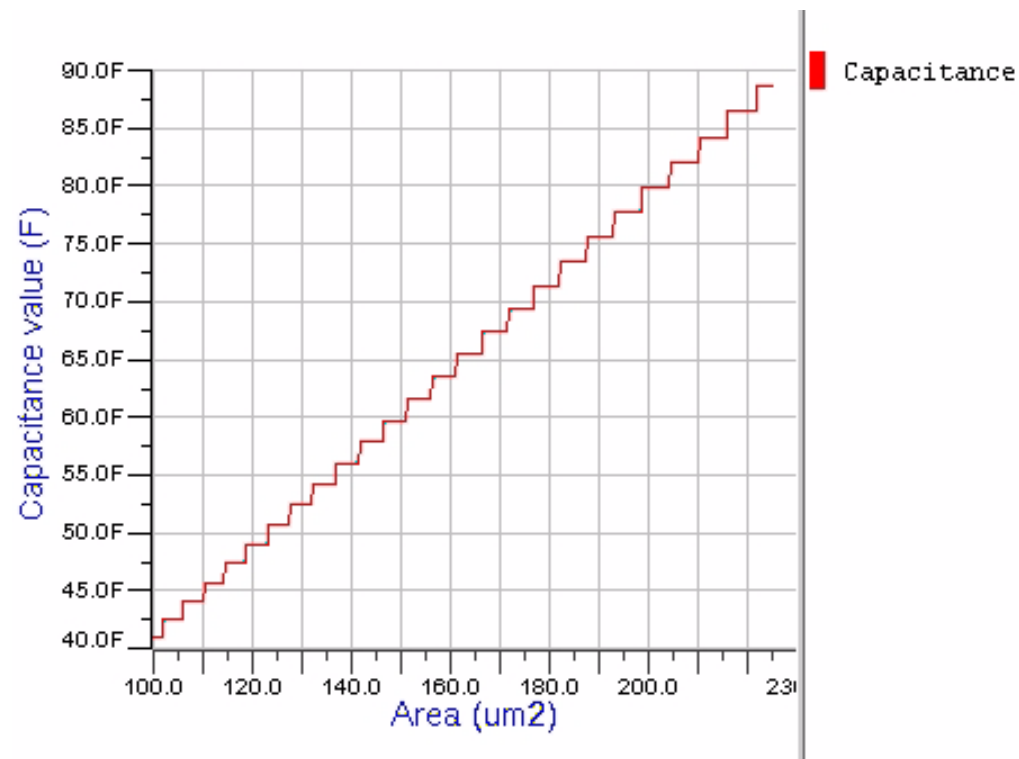

Figure 6 - Capacitance value versus Area (square capacitor)
1. Area of cstrip capacitor takes discrete values: thus capacitance value (specific capacitance) doesn't take all values shown in figures 6 and 7.